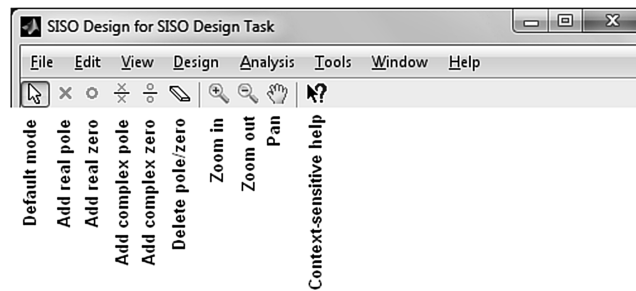

FIGURE E.13 SISO Design for SISO Design Task window toolbar
Add poles, zeros, and compensators Poles and zeros may be added from the **SISO Design Tool for SISO Design Task** window toolbar shown in Figure E.13. Use the **SISO Design for SISO Design Task** toolbar and select the desired compensator pole or zero. Your cursor shows that a pole or zero was selected. Point your cursor arrow to the point on the root locus or Bode plot where you want to add the compensator and click. The compensator is shown in the **Control and Estimation Tools Manager** window under the **Compensator Editor** tab. The effect of adding the compensator is immediately seen in the root locus, Bode plots, and **LTI Viewer for SISO Design Task** windows. You may change the way the compensator is represented by going to **SISO Tool Preferences . . .** under the **Edit** menu. Select the **Options** tab and choose the compensator format you want.
Editing compensators The pole and zero values of the compensators can be edited in several ways. (1) Place your cursor over a compensator zero or pole on the root locus or Bode plot. When the cursor changes to a hand, hold down the left button of your mouse and drag the pole or zero to a new position. (2) Choose **Design** then **Edit Compensator . . .** on the **SISO Design for SISO Task** window menu bar. In response, MATLAB produces the **Control and Estimation Tools Manager**. Under the **Compensator Editor** tab you can type in another location for compensator zeros and poles. (3) Poles and zeros can be erased using the eraser on the tool bar in Figure E.13. Select the eraser with your mouse and click on the pole or zero you wish to erase. The effect of editing the compensator is immediately seen in the root locus, Bode plots, and **LTI Viewer for SISO Design Task** response window.